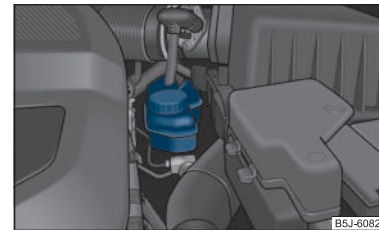

Fig. 143 Engine compartment: Brake fluid reservoir
- Inspect the brake fluid level in the reservoir ⇒ fig. 143. The level must be between the “MIN” and “MAX” markings.